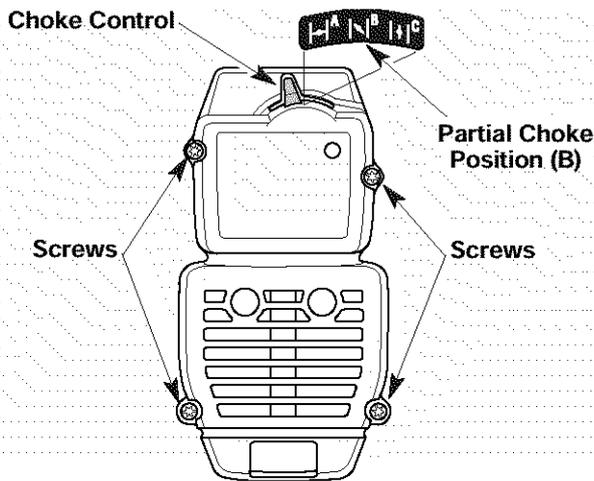

Fig. 20
1. Place the choke control in the **PARTIAL** choke position (B).
NOTE: The choke control must be in the **PARTIAL** choke position (B) (Fig. 20) to remove the air filter/muffler cover.
2. Remove the four (4) screws securing the air filter/muffler cover (Fig. 20). Use a flat blade or # T20 Torx bit screwdriver.
NOTE: The choke control must be in the **PARTIAL** choke position (B) (Fig. 20) to install the air filter/muffler cover.
2. Insert the four (4) screws into the holes in the air filter/muffler cover (Fig. 20) and tighten. Use a flat blade or # T20 Torx bit screwdriver. Do not over tighten. Do not force.